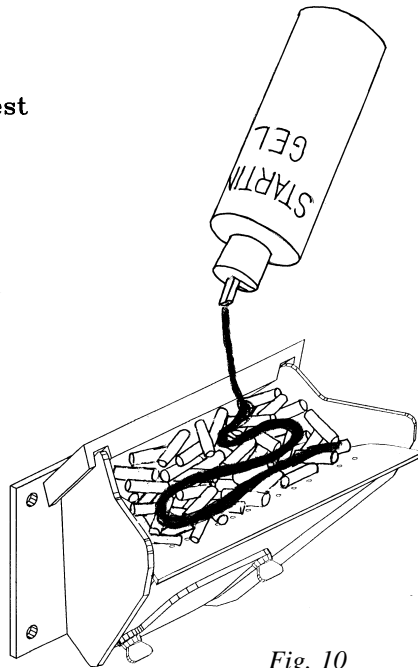

Fig. 10
**Apply starting gel** to pellets in burn pot as shown on fig. 10 and **light** the gel. Close the door after lighting.